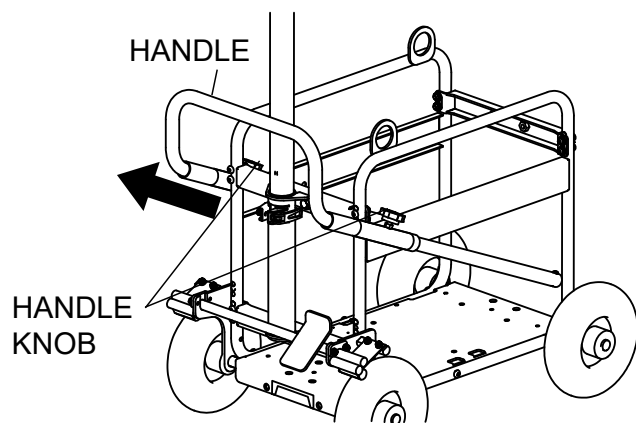

Figure 14. Pulling the Handle Out
1. Loosen the handle knobs on both sides of the cart (Figure 14).